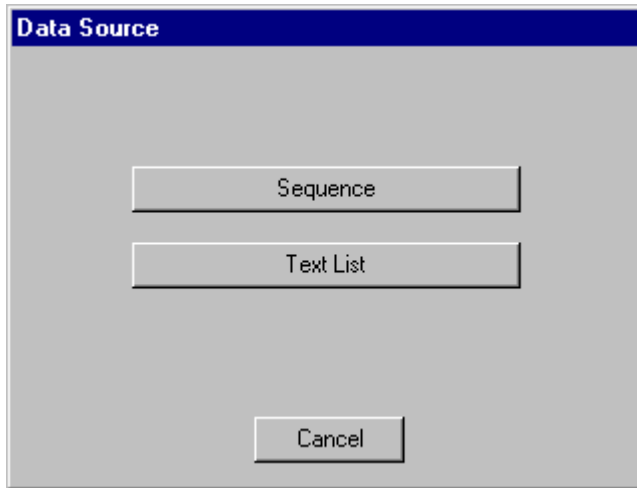

Figure 7-6. The Data Source screen.
1. Choose **Text List** on the **Data Source** screen (Figure 7-6).
1. Choose **Text List** on the **Data Source** screen (Figure 7-6 on page 7-12).